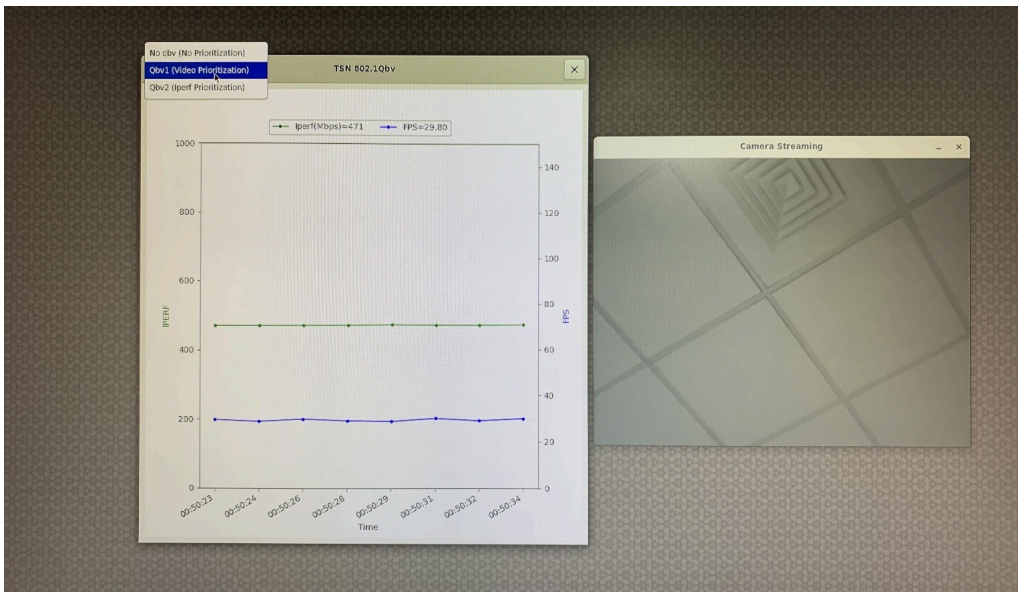

Figure 46. Qbv1 graph window and camera window
- The iperf limits with throughput of 450 Mbit/s to 500 Mbit/s and camera FPS values must be 25 FPS to 30 FPS, as shown in Figure 46.